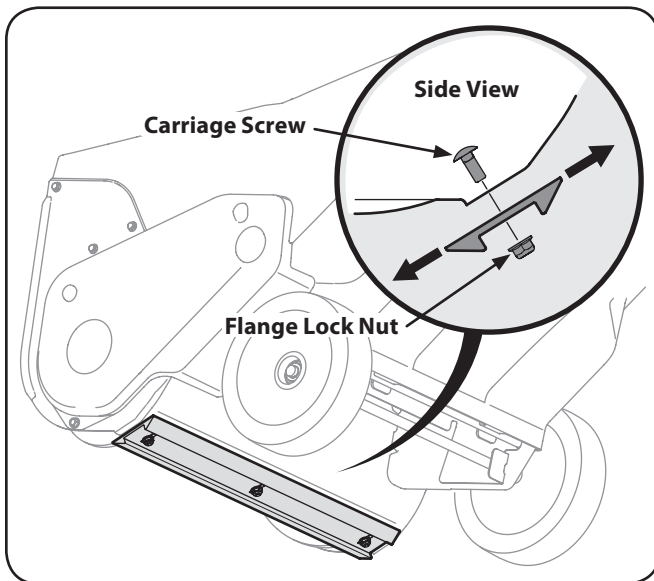

Figure 6-1
3. Loosen the three flange lock nuts and carriage bolts which secure the shave plate to the housing. See Fig. 6-1. Move the shave plate to the desired position and retighten the nuts and bolts securely.